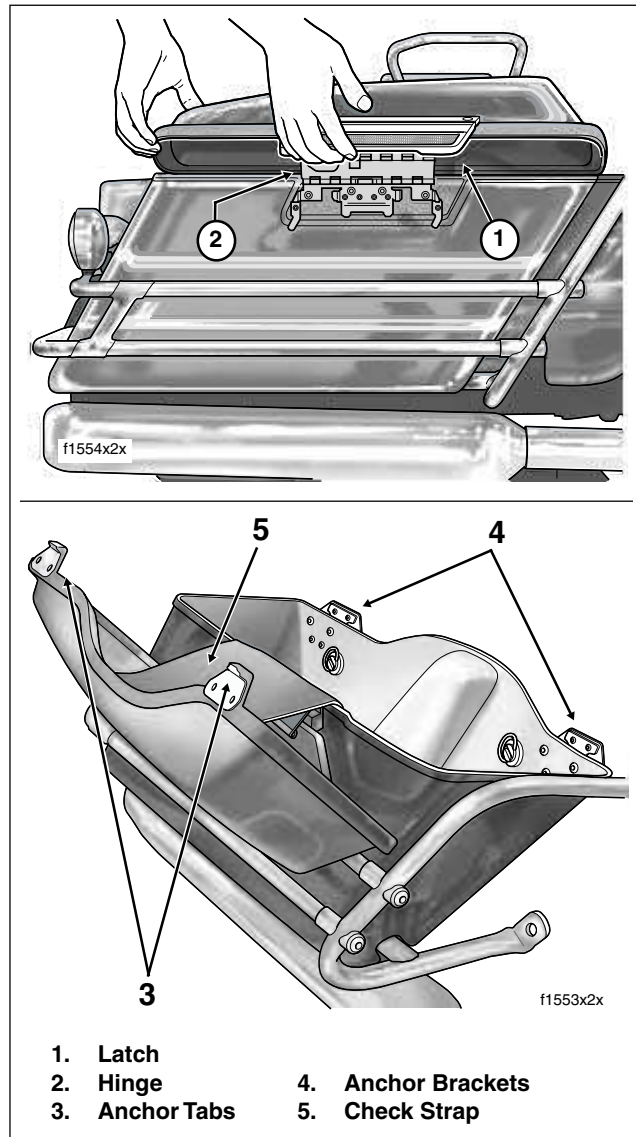

Figure 2-135. Open Saddlebag (FLHR, FLHX, FLHT/C/U, FLTR)
2. Pull bottom of latch outward and then lift upward raising outboard corners of saddlebag lid. See upper frame of Figure 2-135.
4. Pivot lid on latch hinge to open. A nylon check strap suspends the lid in the open position. See lower frame of Figure 2-135.
1. Rotate lid to closed position engaging both anchor tabs with bottom of anchor brackets. Press bottom of latch inward until it snaps closed. See lower frame of Figure 2-135.